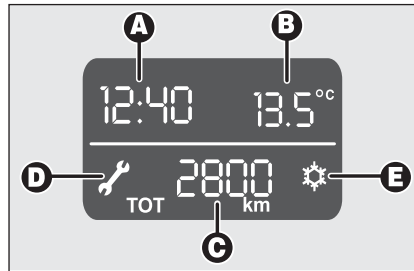

fig. 22
- Clock **A-fig. 22**;
- Scheduled servicing (symbol  **D-fig. 22**).
- Symbol of possible presence of ice on the road (symbol  **E-fig. 22**).